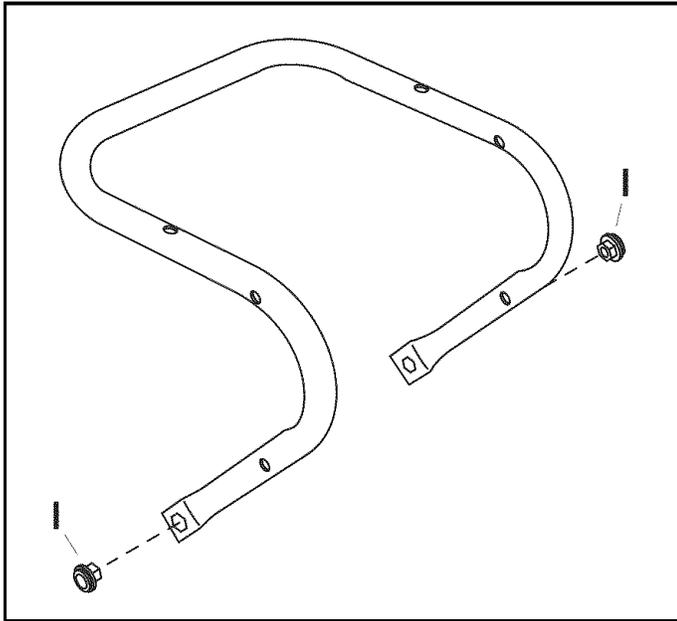

FIGURE 1
- Insert the two hex flange bearings (I) into the frame tube. See figure 1.